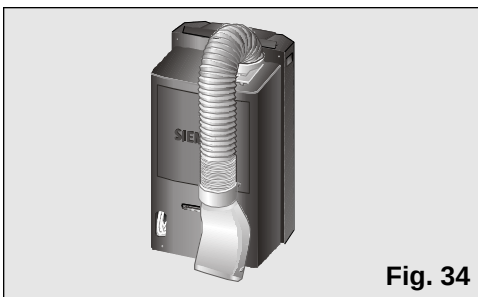

Fig. 34
- ☐ To do this, bend the tube towards the back of the appliance and secure it with the diffusion hook. **Figs. 34 and 35.**